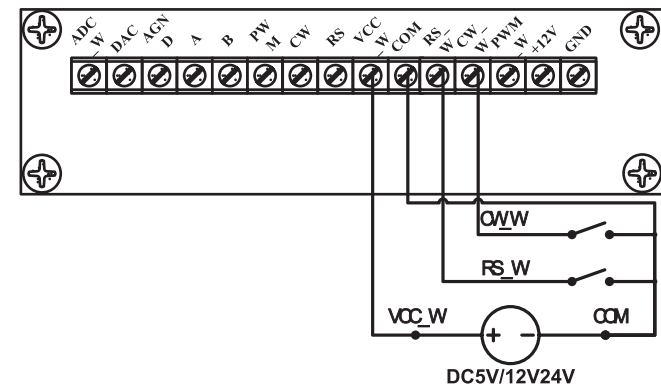
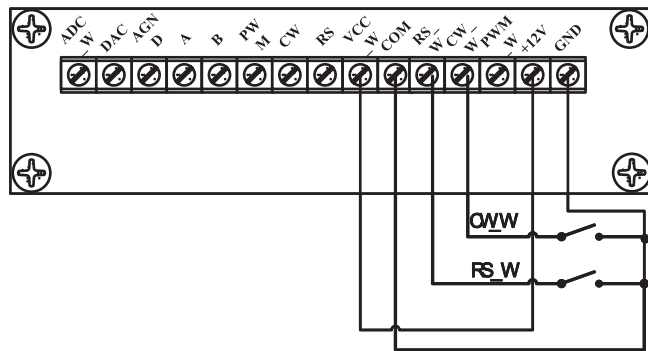

Figure 18 Wiring Diagram of External Power Supply of Level 2
Figure 19 Wiring Diagram of Internal Power Supply of Level 2
- When the power is cut off, connect the circuit according to figure 18 or figure 19, and connect the DB15 interface to the back interface of the pump.